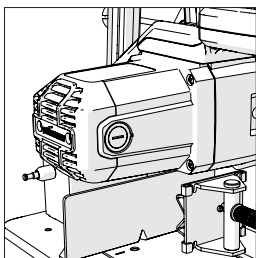

Abb. 13
- Unscrew the plastic caps found at the back of the motor (**Fig. 13**). Be careful as the caps are spring-loaded.